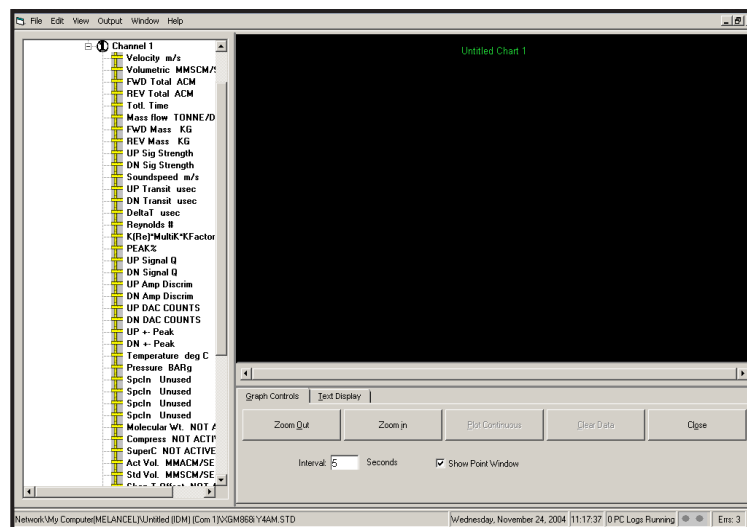

Figure 4: The Graph Window
3. Using the *Window* menu, arrange the open windows in the desired format. For this discussion, Figure 4 shows the *Graph* window in its maximized (full-screen) size.